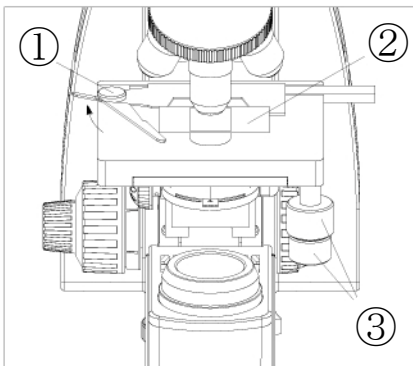

Fig. 6
Rotate the X and Y-axis knobs ③ to move the slide into position. (Fig. 6)